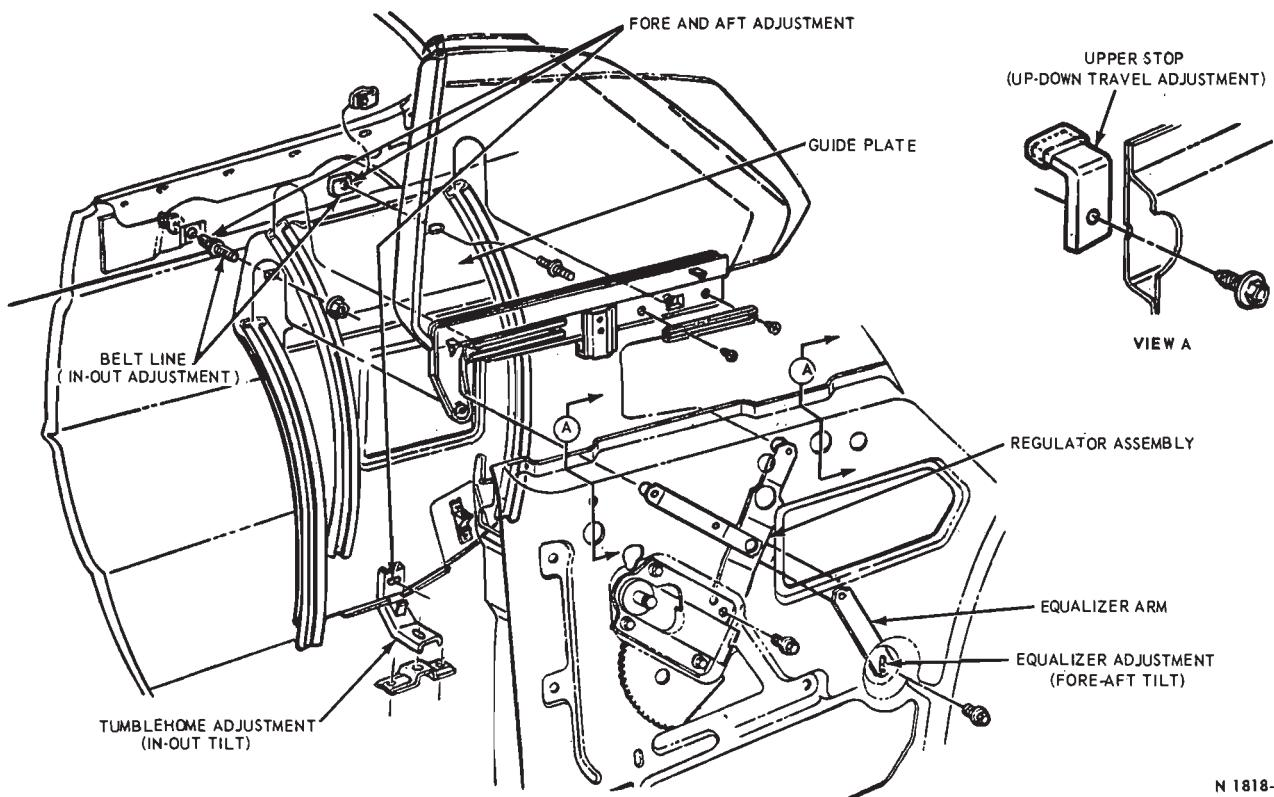

FIG. 9—Quarter Window Mechanism—Fairlane and Montego
2. Remove the upper rear stop (Fig. 9).
3. Remove the upper stop and upper rear stop from the glass channel (Fig. 9).
5. Remove the rear guide two upper attaching screws (Fig. 9).
6. Remove two screws attaching the front guide (Fig. 9) to the glass channel and remove the glass from the quarter panel.
5. Install the upper stop and upper rear stop on the glass channel (Fig. 9).